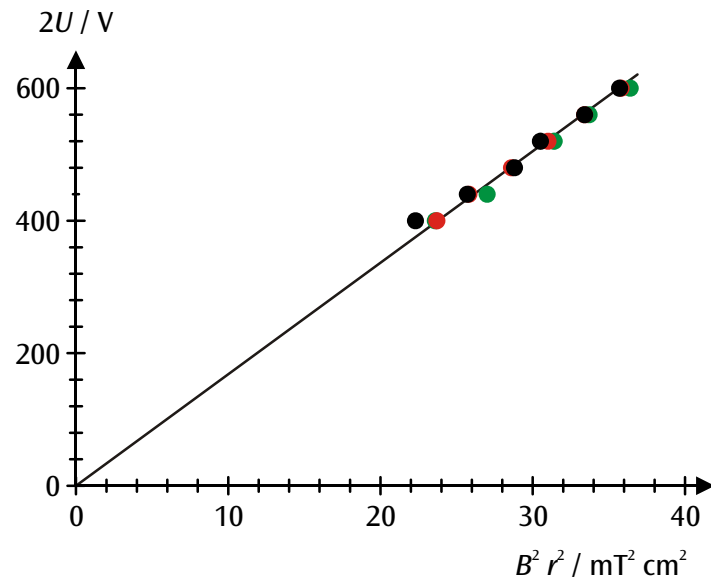

Fig. 3 Graph of $r^2 B^2$ against $2U$ for values as measured (black: $r = 5$ cm, red: $r = 4$ cm, green: $r = 3$ cm)
- For further evaluation, plot the measured values in a graph of $r^2 B^2$ against $2U$ (see Fig. 3).